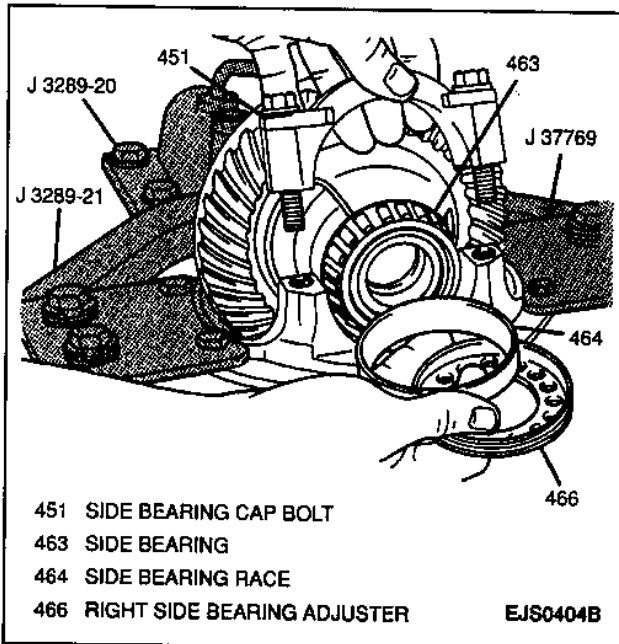

Figure 40—Removing Side Bearing Adjusters and Races
6. Side bearing adjusters and bearing races from differential carrier (Figure 40).